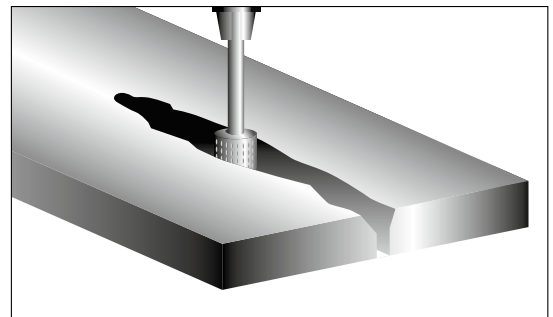

Figure 10. Grind out the repair area for maximum adhesion.
- 3. CREATE BETTER BOND:** To create a better bond drill, or edge grind the cracked area with an abrasive wheel to "V" out the cracked area. After the area has been opened up, clean the area of any residue using LOCTITE® ODC-Free Cleaner & Degreaser. (See Figure 10)